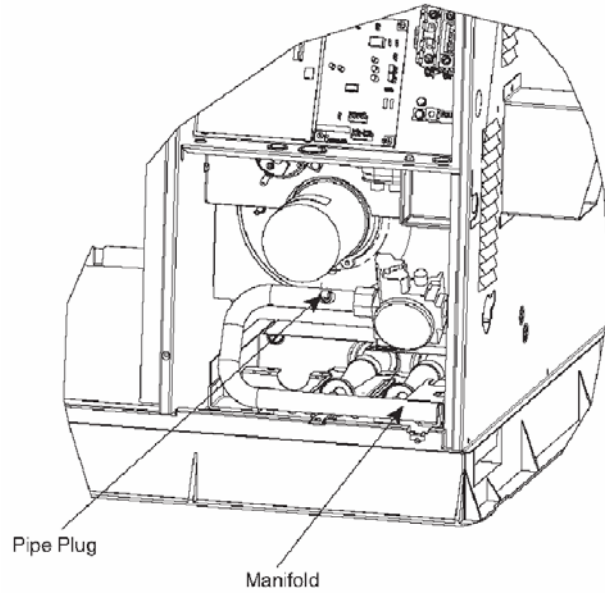

Figure 5
31. With control access panel removed, observe unit heating operation. Watch burner flames to see if they are blue in appearance, and that the flames are approximately the same for each burner. See Fig. 5.